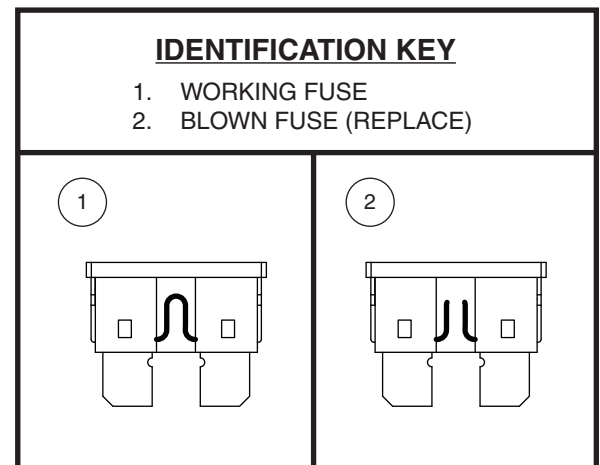

Figure 29. Fuse Replacement
2. Examine the fuse to be sure it is blown. See figure 29.